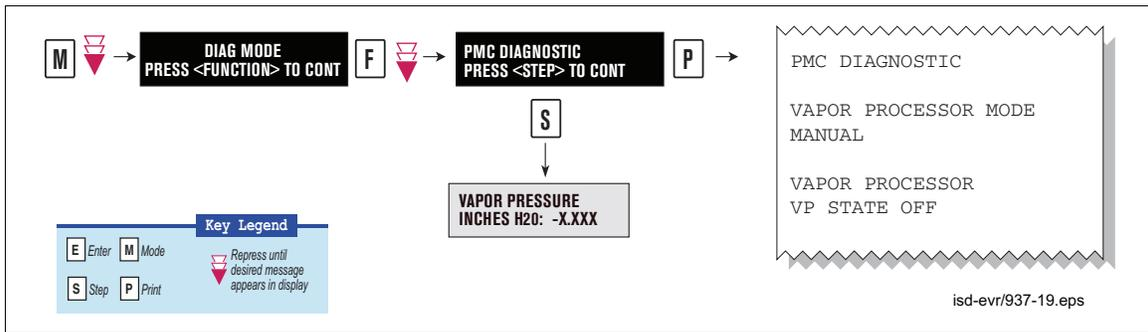

Figure 24. Accessing the vapor pressure sensor reading
2. On the TLS Console front panel, use the 'mode key' to scroll to "DIAG MODE" then use the function and step keys, as shown in Figure 24 to view the current pressure value.
3. On the TLS Console front panel, use the 'mode key' to scroll to "DIAG MODE" then use the function and step keys, as shown in Figure 24 to view the current pressure value.